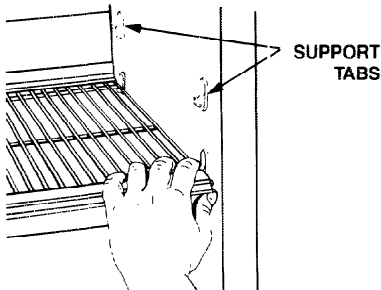

FIGURE 74
1. To remove, press tabs on shelf support on right side of wall, lift shelf out of support tabs. See Figure 74.